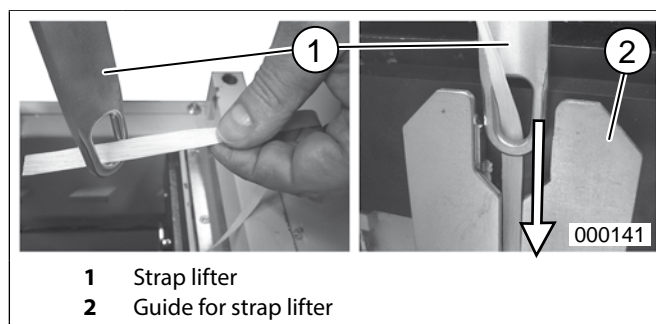

fig. 21 Strap lifter
2. Open the inlet flap and remove both strap lifters (fig. 21/1).
6. Loosen the strap end from the pull cable as shown, feed it through the strap lifter (fig. 21/1) and set the strap lifter back into place at the baling ram (fig. 21/2).